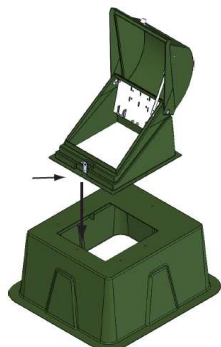

Figure 1
2. Line up the ND-2022 pre-drilled front hole with the box pad's front insert hole (Figure 1).